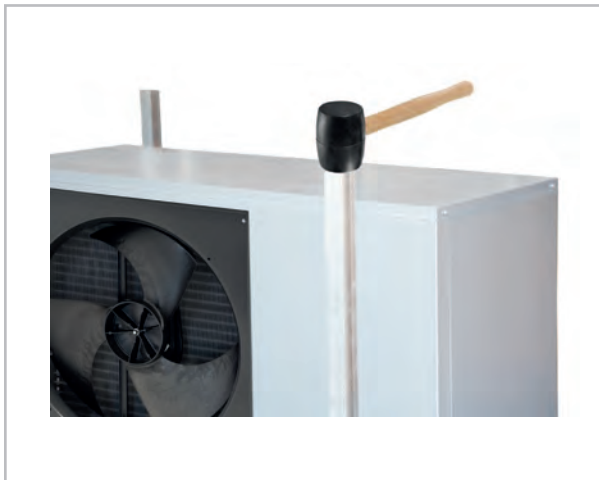

Fig. 19
9. ➤ Now place the enclosed aluminium supports at the corners of the aluminium frame (⚡ 'Components on the noise protection hood' on page 23, item 8) and attach them. (Fig. 19). Only use suitable tools for this, such as a rubber hammer, in order to prevent damage to the aluminium profiles.